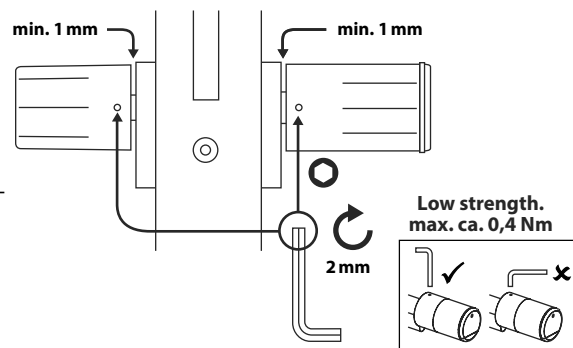

Fig. 6
- ⑥ Screw the grub screws back into the two knobs (Fig. 6).
- 1 Clean the surface to which the keypad is to be attached (Fig. 6).